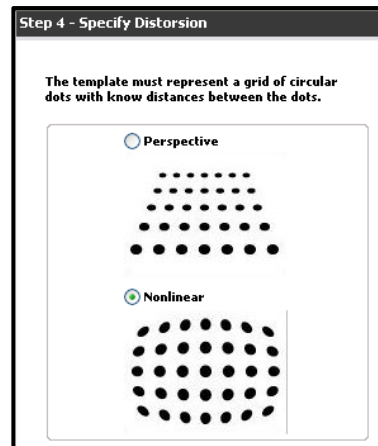

Figure 94. Select distortion type.
1. After selecting whether to use the current image or another image, choose between Perspective Distortion and Nonlinear Distortion. [Figure 94]